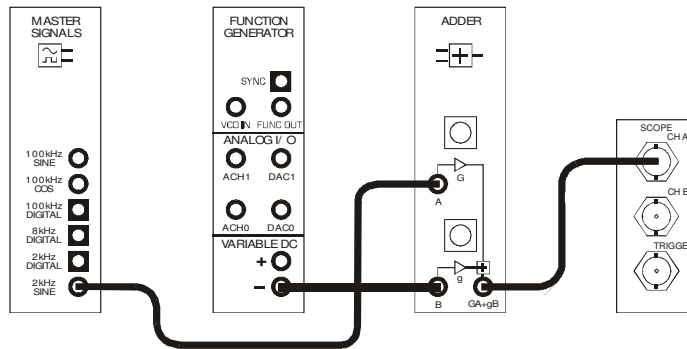
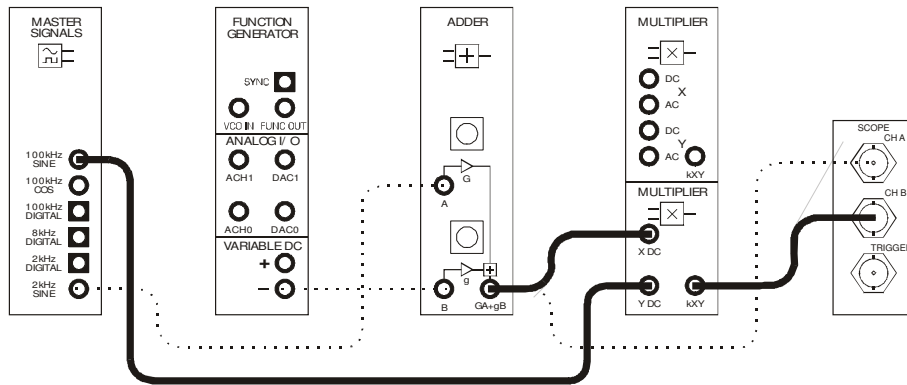

Figure 4
Figure 6
22. Connect the set-up shown in Figure 4 below.
27. Modify the set-up as shown in Figure 6 below.
The set-up in Figure 6 builds on Figure 4 so don't pull it apart. Existing wiring is shown as dotted lines to highlight the patch leads that you need to add.